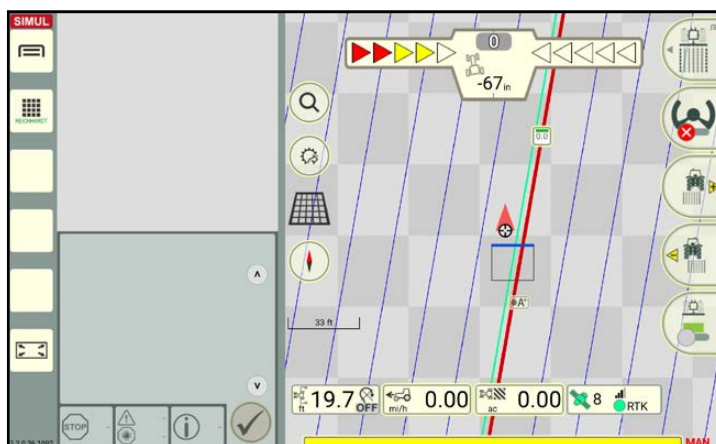

Fig. 102: Parallel track pattern after stopping the reference track recording
If the prompt to stop track recording was confirmed, you will automatically switch to field marking mode (see Fig. 102).
- A parallel track pattern is created for the last created reference track (see Fig. 102);